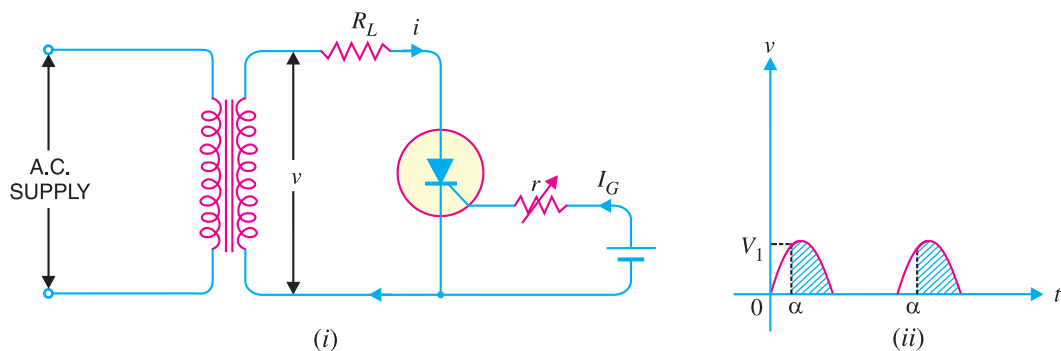

Fig. 20.12
One important application of an SCR is the controlled half-wave rectification. Fig. 20.12 (i) shows the circuit of an SCR half-wave rectifier. The a.c. supply to be rectified is supplied through the transformer. The load resistance  $R_L$  is connected in series with the anode. A variable resistance  $r$  is inserted in the gate circuit to control the gate current.
(ii) The SCR will conduct during the positive half-cycles provided proper gate current is made to flow. The greater the gate current, the lesser the supply voltage at which SCR is turned ON. The gate current can be changed by the variable resistance *r* as shown in Fig. 20.12 (i).
(iii) Suppose that gate current is adjusted to such a value that SCR closes at a positive voltage  $V_1$  which is less than the peak voltage  $V_m$ . Referring to Fig. 20.12 (ii), it is clear that SCR will start conducting when secondary a.c. voltage becomes  $V_1$  in the positive half-cycle. Beyond this, the SCR will continue to conduct till voltage becomes zero at which point it is turned OFF. Again at the start of the next positive half-cycle, SCR will start conducting when secondary voltage becomes  $V_1$ .
(iv) Referring to Fig. 20.12 (ii), it is clear that firing angle is  $\alpha$  *i.e.* at this angle in the positive half-cycle, SCR starts conduction. The conduction angle is  $\phi (= 180^\circ - \alpha)$ .
**Mathematical treatment.** Referring to Fig. 20.12 (i), let  $v = V_m \sin \theta$  be the alternating voltage that appears across the secondary. Let  $\alpha$  be the firing angle. It means that rectifier will conduct from  $\alpha$  to  $180^\circ$  during the positive half-cycles.